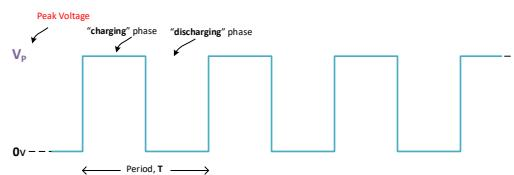

Figure 2.1: Square-wave waveform input voltage source
- (iii) In order to observe the transient response on the MultiSIM or Lab oscilloscope, the **R-C** circuit will be driven with a periodic square-wave signal as illustrated in **Figure 2.1**.
- (iii) In order to observe the transient response on the MultiSIM or Lab oscilloscope, the **R-L** circuit will be driven with a periodic square-wave signal as illustrated in **Figure 2.1**.
- Set the Function Generator (FG) to produce an **10VP-P** square-wave output at **5000 Hz** with a **+5V** “DC-Offset” so that the open-circuit output voltage steps between **0V** and **10V** ( $= V_p$ ) as illustrated in **Figure 2.1**. Monitor the FG output on **CH-1** of the Oscilloscope to confirm the settings. Set the time-scale on the Oscilloscope to display at least two periods or cycles of the square-wave waveform.
- As done earlier, set the Function Generator (**FG**) to produce an **10VP-P** square-wave output at **5000 Hz** with a **+5V** “DC-Offset” so that the open-circuit output voltage steps between **0V** and **10V** (= **VP**) as illustrated in **Figure 2.1**. Monitor the **FG** output on **CH-1** of the Oscilloscope to confirm the settings. Set the time-scale on the Oscilloscope to *display at least two periods or cycles* of the square-wave waveform.